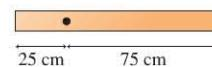

FIGURE P7.19
19. The 2.0 kg, uniform, horizontal rod in Figure P7.19 is seen from the side. What is the gravitational torque about the point shown?